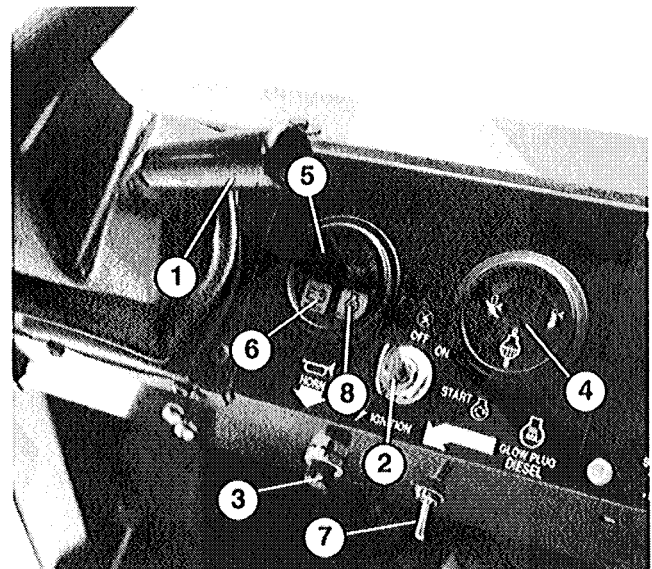

Figure 21
Tilt Steering Lever (Fig. 21) – Lever on right side of console allows steering wheel to be adjusted for operator comfort.
Coolant Temperature Gauge (Fig. 21) – Registers coolant temperature in engine. Operates only when ignition switch is in On position.
Horn Button (Fig. 21) – Pressing button activates horn.
Engine Low Oil Pressure Light (Fig. 21) – Light glows if engine oil pressure drops below a safe level while engine is running. If light flickers or remains ON, stop vehicle, turn off engine and check oil level. If oil level was low, but adding oil does not cause light to go out when engine is restarted, turn engine off immediately and contact your local TORO distributor for assistance.
Glow Plug Switch and Indicator (Fig. 21) — Use to preheat engine cylinders prior to cold engine starting procedures — cylinders are preheated automatically during warm engine start operation. For cold starting, push switch lever upward and hold while watching indicator. Indicator will glow orange when the glow plugs are activated. Length of time necessary to preheat cylinders should be determined by atmospheric temperature; refer to Starting /Stopping Engine.
Ignition Switch (Fig. 21) — The ignition switch, used to start and stop the engine, has three positions: OFF, ON / Preheat and START. Rotate key clockwise — START position — to engage starter motor. Release key when engine starts. The key will move automatically to the ON position. To shut engine off, rotate key counterclockwise to OFF position.
Charge Indicator (Fig. 21) — Illuminates when battery is being discharged. If light illuminates during operation, stop vehicle, turn Off engine and check for possible causes, such as alternator belt.
5. When temperature is below 15°C (60°F), push glow plug switch upward to ON position (Fig. 21) and hold for suggested interval.